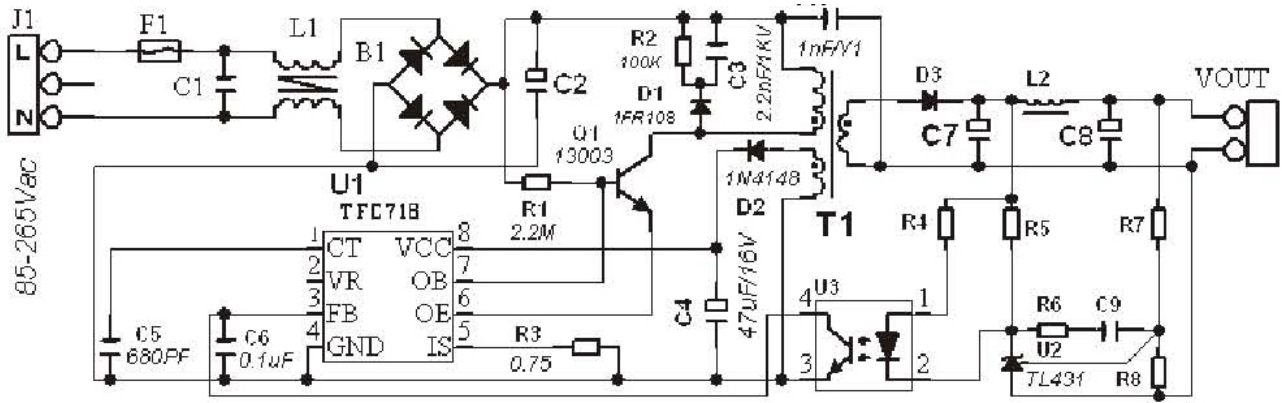
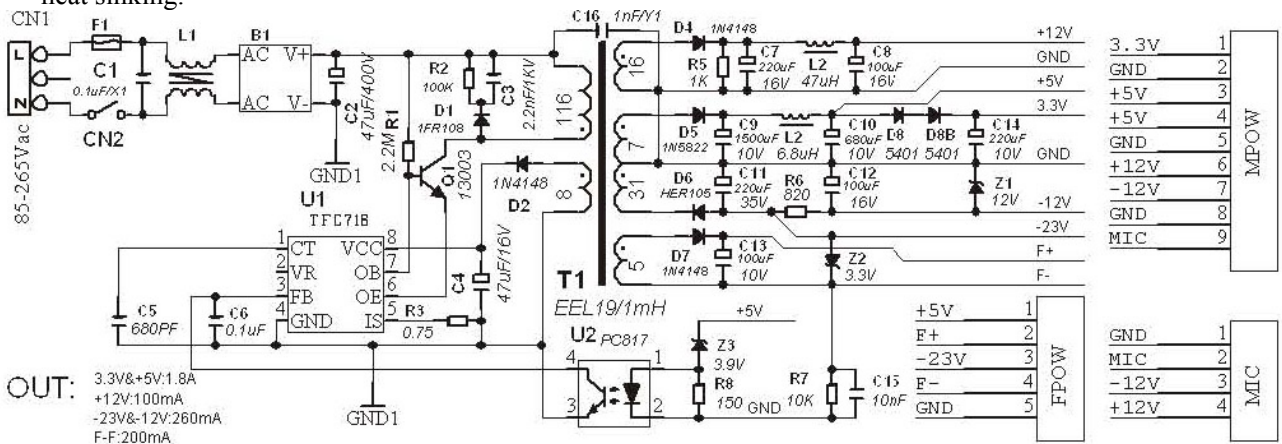

Figure 3: 18W Switching Power Supply
Figure 4: DVD Power Supply with Broad Voltage and Peak Value capable of reaching 18W
- The power supply enabling current is selected to 0.5 ~ 3mA, the amplification of the power tube can be calculated based on 10, then the selection of start-up resistor (such as R1 in Figure 3 and Figure 4) should ensure that the base current of the power tube to be 0.05 ~ 0.3mA at the time when the power supply starts. Therefore, it could reduce the power consumption of the start-up resistor by ten times and reduce the standby power consumption;
- In Figure 3 and Figure 4, C5 = 680pF, the maximum operating frequency is about 60KHz;
- Switching transformer (T1 in Figure 3 and Figure 4): The rectified output of the reference winding is 4.8 ~ 9V (the preferred value is 6V) providing working power supply to TFC718;
- Selection of the power tube: When the maximum peak current is 0.8A, by considering OB open current, the β value of the power tube should be 10@5Vce@0.8A, the corresponding testing resistor (R3 in Figure 3 and Figure 4) should be 0.75ohm; in any current condition, the power tube should work in the saturation area and its testing resistor should be 0.6V/max. peak current;
- Application Case 1 (Figure 3): A 18 W switching power supply with its output voltage determined by the voltage ratio of R6 and R7, but the transformation ratio of switching transformer T1 should be considered.
- Application Case 2 (Figure 4): A DVD power supply with broad voltage and peak value capable of reaching 18W. The reason why it is said “peak value capable of reaching 18W” is that DVD needs a very short period of high power during its waiting for start-up and needs probably below 10W in all other times. So, it is possible to consider reducing the heat-sinking requirement for the power tube Q1, or even without using the heat sinking.